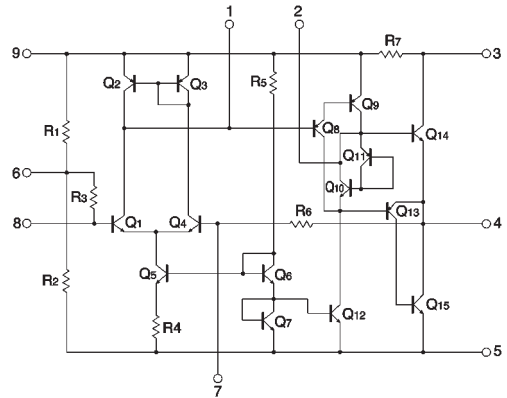

Fig. 2
- 1) High output. $POUT = 330mW$ ($V_{CC} = 6V$ and an 8Ω load (THD = 10%)). See Fig. 2.
●Circuit construction (See Fig. 2)